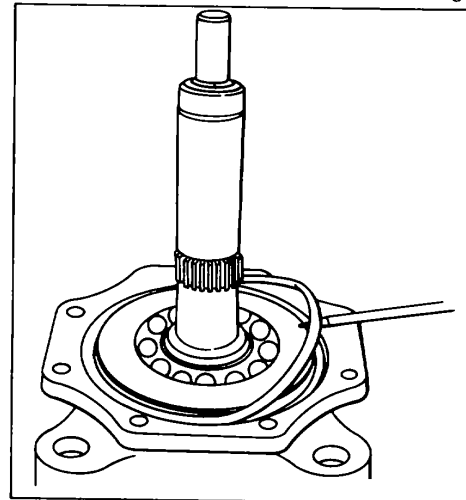

Figure 125.
17. Remove O ring (31) from flange (2). See Fig. 125.